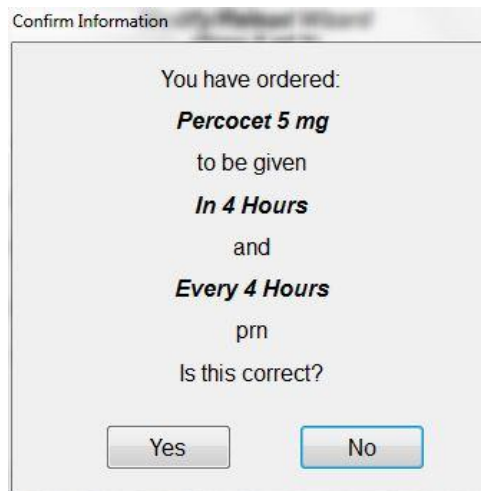

Figure 21: Dispense Confirm Information Screen.
4. Review the information on the **Confirm Information** screen (Figure 21) and verify that it is accurate.